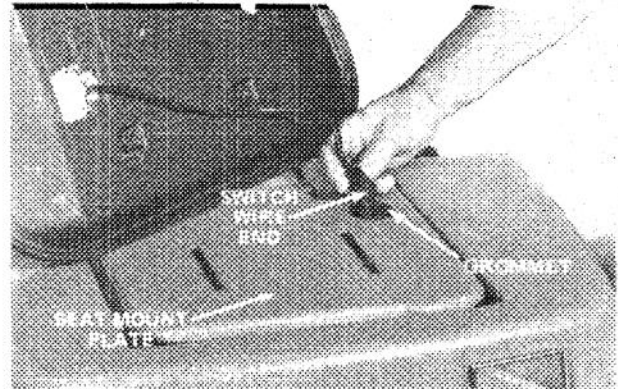

Figure 3
2. Position seat onto mounting plate and insert wire end from seat switch through grommet in plate (Fig. 3).